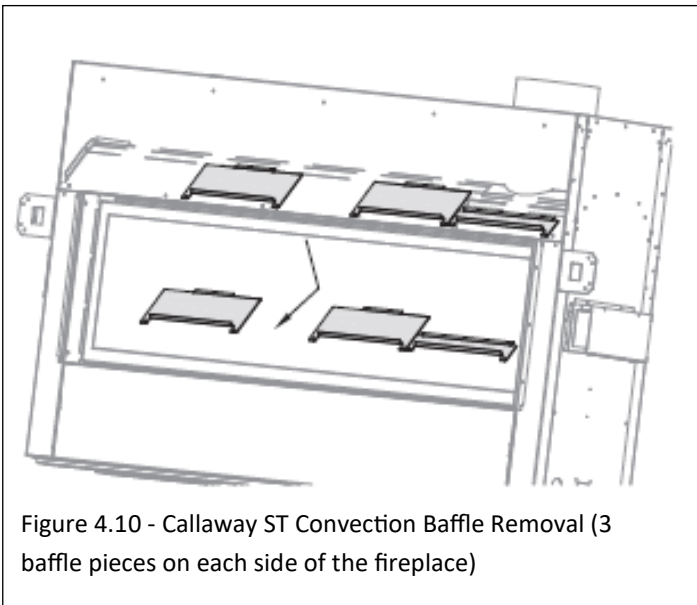

Figure 4.10 - Callaway ST Convection Baffle Removal (3 baffle pieces on each side of the fireplace)
1. Remove the convection baffle from the appliance. Recycle this panel as it is no longer needed. The (6) baffles are secured by (2) screws each behind the upper edge of both fireplace openings. Each side of the fireplace has (3) convection baffles to be removed. See FIGURE 4.10.
2. Remove (4) cover plates on top of the appliance (4 screws each).